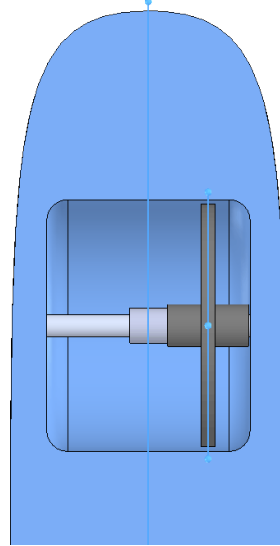

Fig. 13
Step 5. Click **Distance**  in Mate pop-up, **Fig. 12**. Set **distance 8.5** and press **ENTER**. The Wheel should on right side of shell, **Fig. 13**. If positioned in opposite direction, click **Flip Dimension**  in the Mate pop-up, **Fig. 12**. Click **Add/Finish Mate**  to add Distance mate.